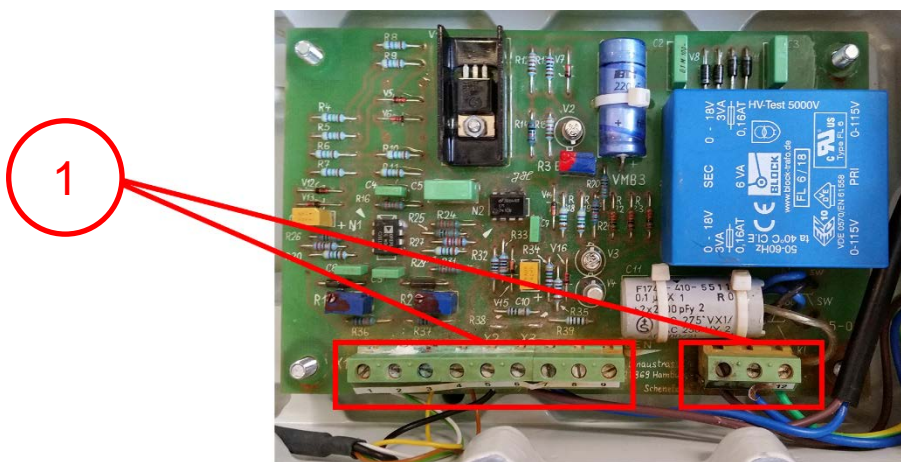

Figure 1
- Before removing VMB3-card, disconnect all cables from the terminal strips. Refer to figures 1 and 2.